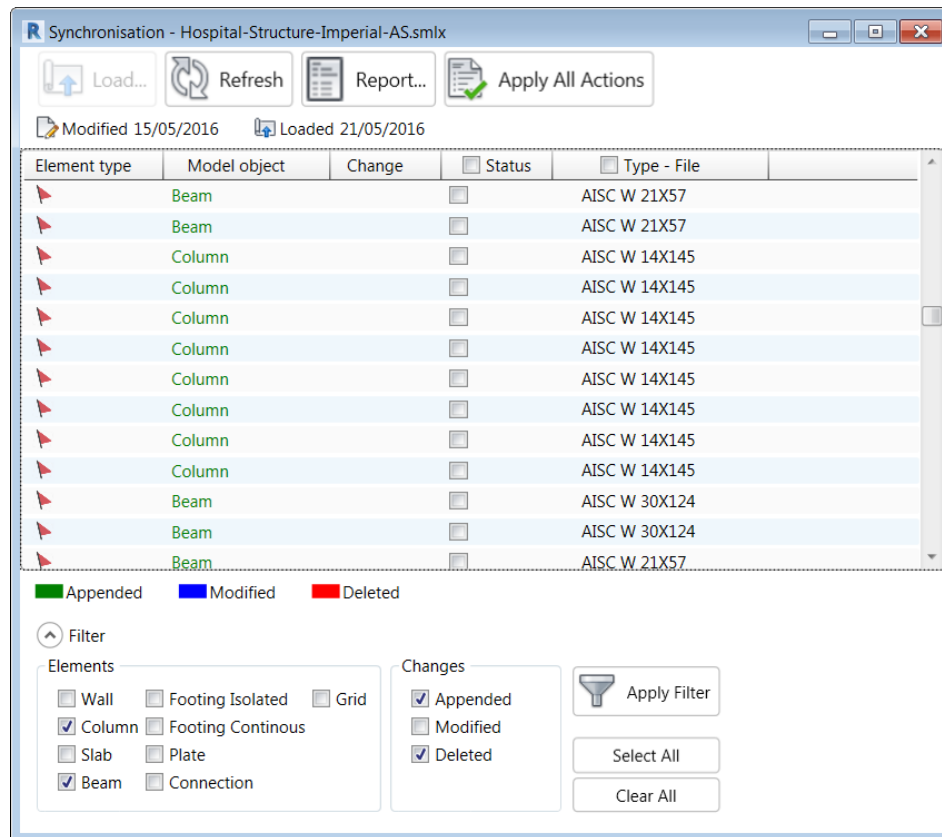

FIGURE 28: THE SYNCHRONISATION DIALOG BOX SHOWING THE APPENDED ITEMS
3. Expand the dialog box by clicking on the **Filter** button on the lower left corner. Clear the filter of the changes you do not want to see. For example, Figure 28 only shows the appended elements.